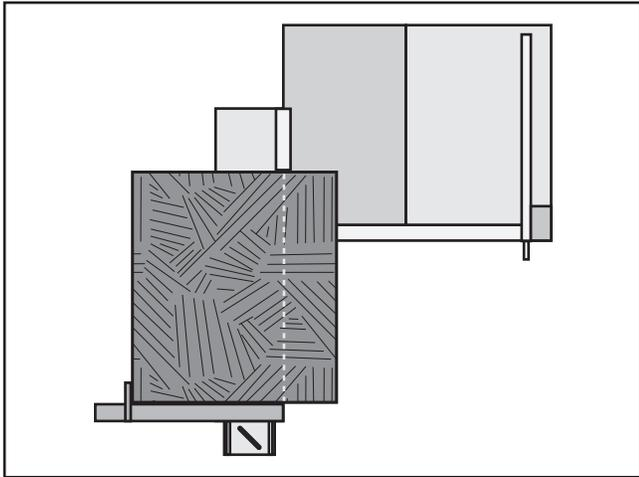

Figure 47. Rip cutting with the sliding table.
This saw has the capability of rip cutting large panels, as shown in **Figure 47**. The sliding table removes the burden of sliding a large and heavy panel over a stationary table surface.
5. Load the workpiece onto the table saw. The set up should look similar to **Figure 47**.